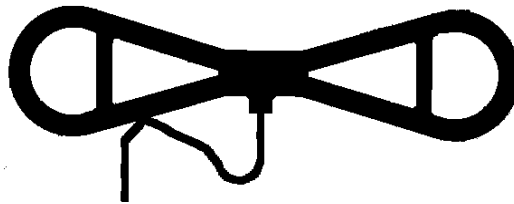

Figure 1, Antenna Tie Wrap Modification
31. Referring to Figure 1, measure back 4" from the connector that attaches to the Figure 8 Loop. Place that point on the cable next to the Figure 8 Loop and place a Cable Tie (5878-0016) on it. This will stop the cable from being pulled out of the Antenna Cable Connector.